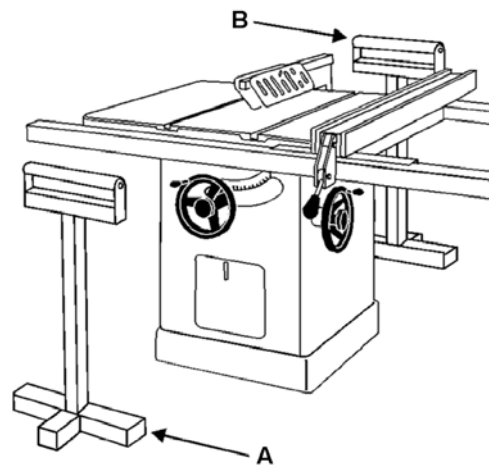

Figure 34
When ripping long boards, use a support at front of table (A, Figure 34), such as a roller stand, and a support or "tailman" (B) at the rear.